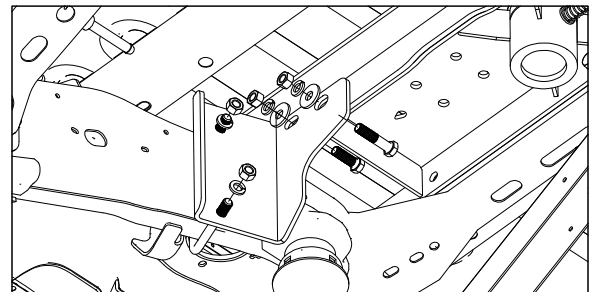

Figure D3: View of passenger side plate looking up at the frame.
2. **Install passenger side plate.** Locate the passenger side plate. Position the side plate so that the two round holes match up to the U-bolt on the passenger side and push the U-bolt into the holes, see Figure D3. Secure the side plate and U-bolt with lock washers and nuts. Attach this side plate to the front cross member, and center using a 2-1/4" long bolt through the center, cross member and side plate along with a lock washer, flat washer, and a finish nut. Finish attaching the side plate by placing 1/2" x 1-1/2" long bolt through the cross member and the side plate adding a flat washer, lock washer, and finish nut. Hand tighten these connections.